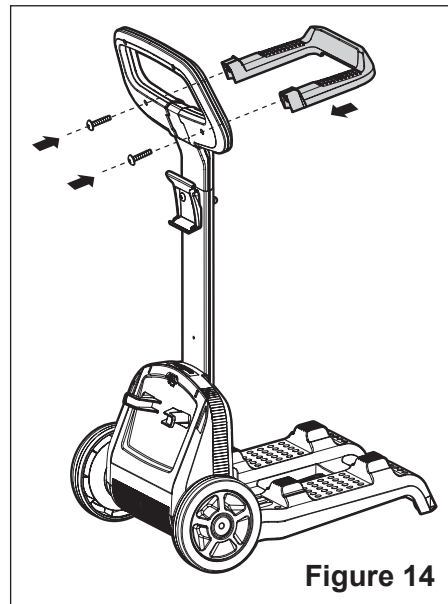

Figure 14
1. Using the final two shorter Phillips-head screws provided with the caddy, secure the power cable holder to the caddy handle. See **Figure 14**.